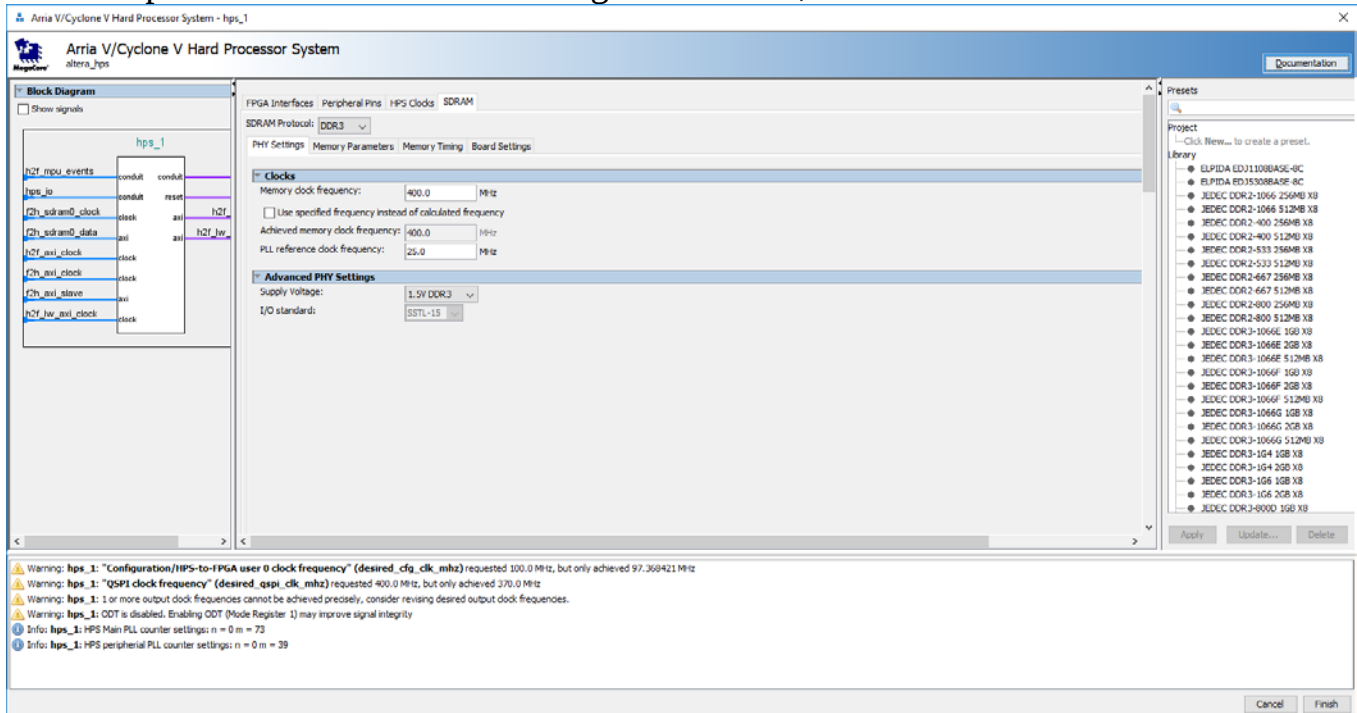

Figure 30 : SDRAM of HPS
- On SDRAM tab, select DDR3 in the box of SDRAM protocol, and the other parameters as shown in the Figure 30. Then, click finish.